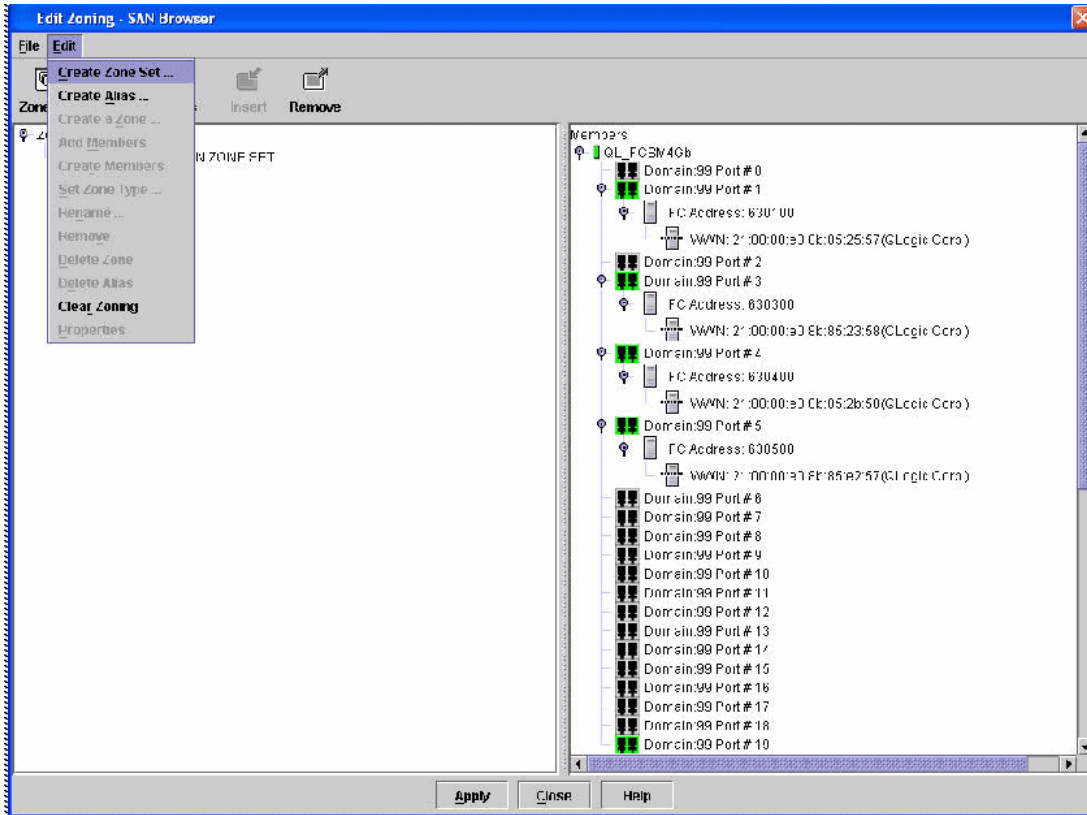

Figure 7-21 Edit Zoning - SAN Browser window
11. From the Edit Zoning dialog window, select **Edit** → **Create Zone Set** (Figure 7-21 on page 189).